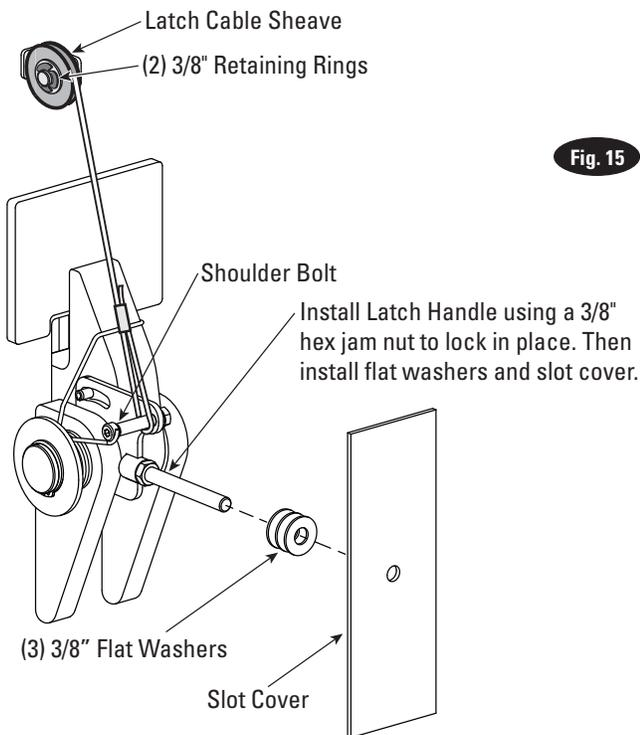

Fig. 15
1. Install latch cable sheave and retaining rings in upper slot of power unit column as shown, Fig. 15.
2. Slip loop end of cable over end of shoulder screw on right side latch control plate, Fig. 15.
3. Feed the other end of the cable through the latch cable sheave slot making sure that the cable is running under the bottom side of the latch cable sheave and inside the right column, Fig. 15.
9. At this point you **MUST** install the latch handle, jam nut, and right column latch cover Fig. 15 & Fig. 18. Install latch handle ball, Fig. 18.